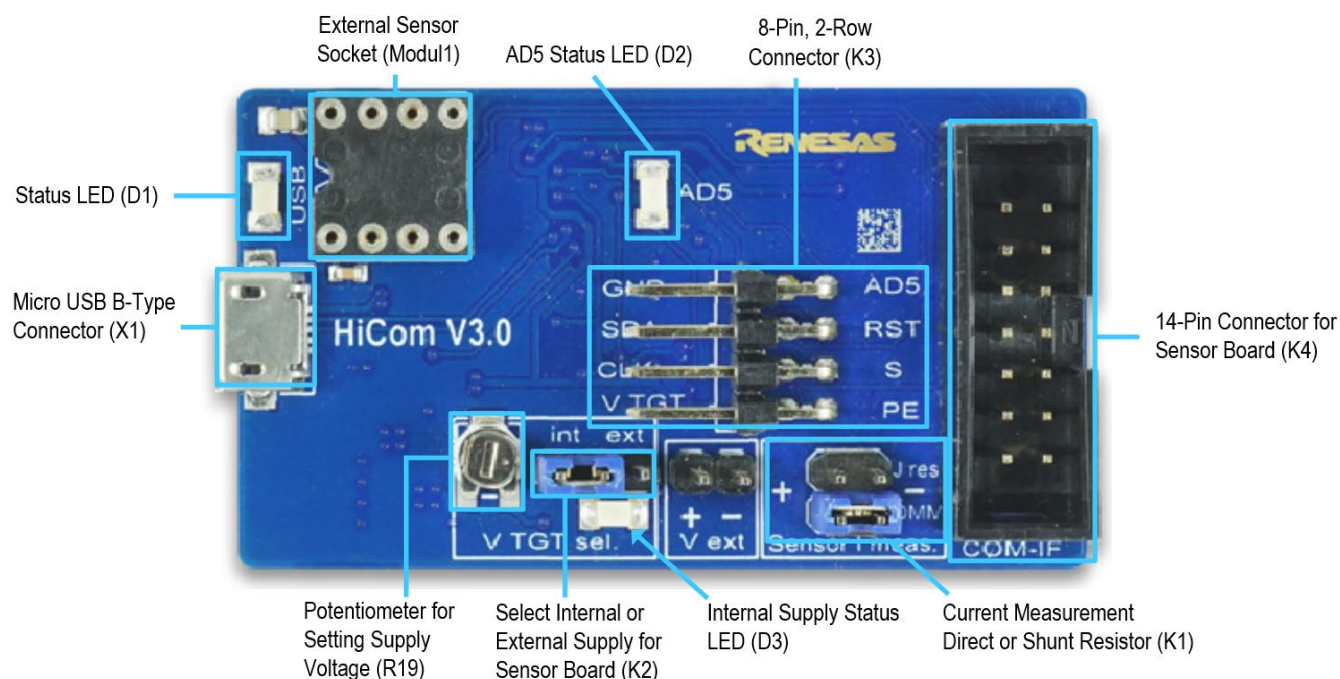
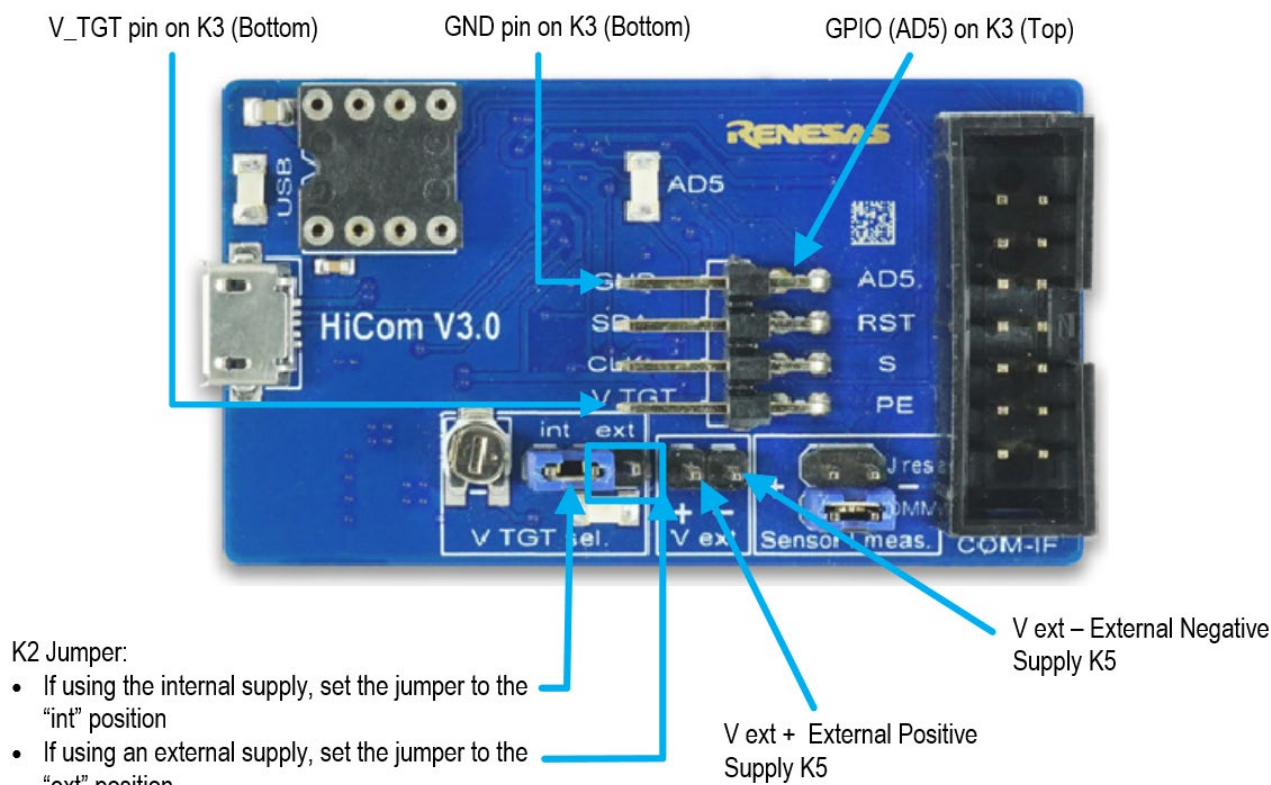

Figure 2. Jumper Settings and Connectors on Top Side of the ZMOD4410 Communication Board
Figure 3. Jumper Settings, Connections, and Test Points on the Communication Board for the Internal or External Supply Voltage
1. Refer to Figure 2, Figure 3, and Table 1 to determine the correct jumper settings for the ZMOD4410 Communication Board depending on whether an external supply or the internal voltage supply on the board is used.
- If using an external supply, ensure that the jumper is across the pins labeled “ext” on the K2 connector. In this case, without connecting the external supply to the Communication Board, verify that the external voltage supply setting does not exceed the voltage supply specifications – a minimum of 1.8V or a maximum of 3.6V – as per the ZMOD4410 Datasheet. With the external supply off, connect the external voltage to the 2-pin “±V ext” header adjacent to the K2 jumper with the orientation indicated in Figure 3.
If the external voltage supply has been selected, turn on the external supply and verify that the D3 LED adjacent to the potentiometer is on (see Figure 2). *Note:* The intensity of the green D3 LED is proportional to the supply voltage.
5. If the internal voltage is used, the Gas Sensor Evaluation Software activates the internal voltage after the sensor has been started. Use the metal potentiometer to the left of the K2 connector to adjust the VDD supply voltage in the typical range from 1.8V to 3.6V as measured across the V_TGT and GND pins available on the K3 connector as shown in Figure 3. Its initial adjustment on delivery provides a voltage of $VDD \approx 2.0V$. Once a measurement has been started by the software, the green D3 LED adjacent to K2 will light with an intensity proportional to the voltage supply that was set using the potentiometer.
6. Verify that the red D1 LED is on, which indicates that the kit is properly connected and powered (see Figure 2).